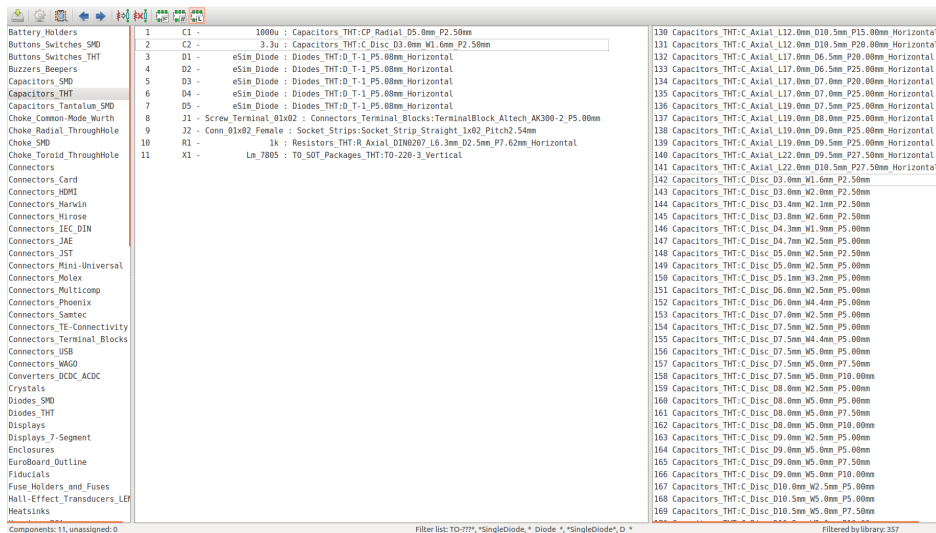

Figure 14.8: Footprint mapping completed for the circuit
2. Similarly choose the footprints per Fig. 14.8 where the footprint association for all the footprints is shown in Fig. 14.8. Save the footprint association by clicking on the Save footprint association in schematic component footprint fields tool from the CvPcb toolbar.